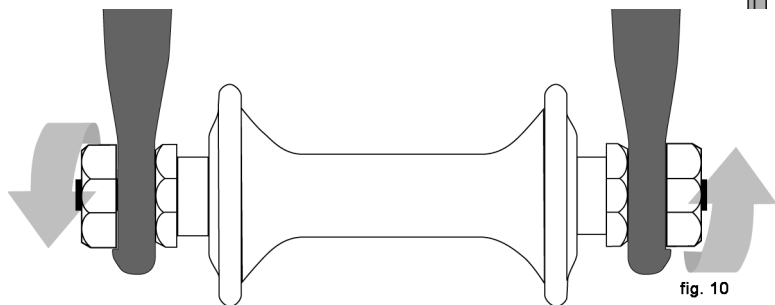

fig. 10
3. Hex nuts or hex key bolts which are threaded on to or into the hub axle (bolt-on wheel, fig. 10)